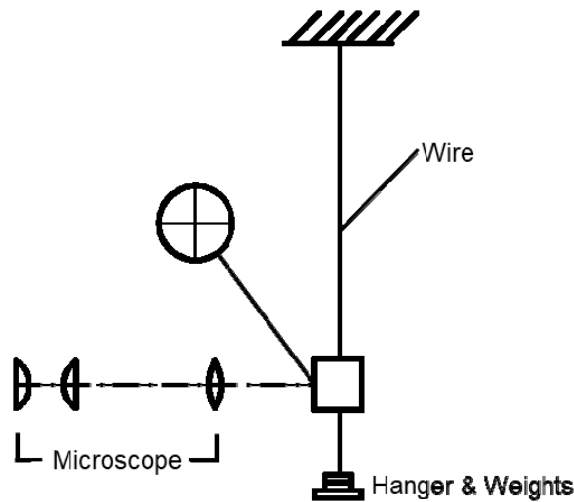

Figure 1 Schematic of measurement set-up
As shown in Figure 1, hanger for weights is attached on one end of the wire for measurement. When adding weights (M), the force acting on the wire will increase by F